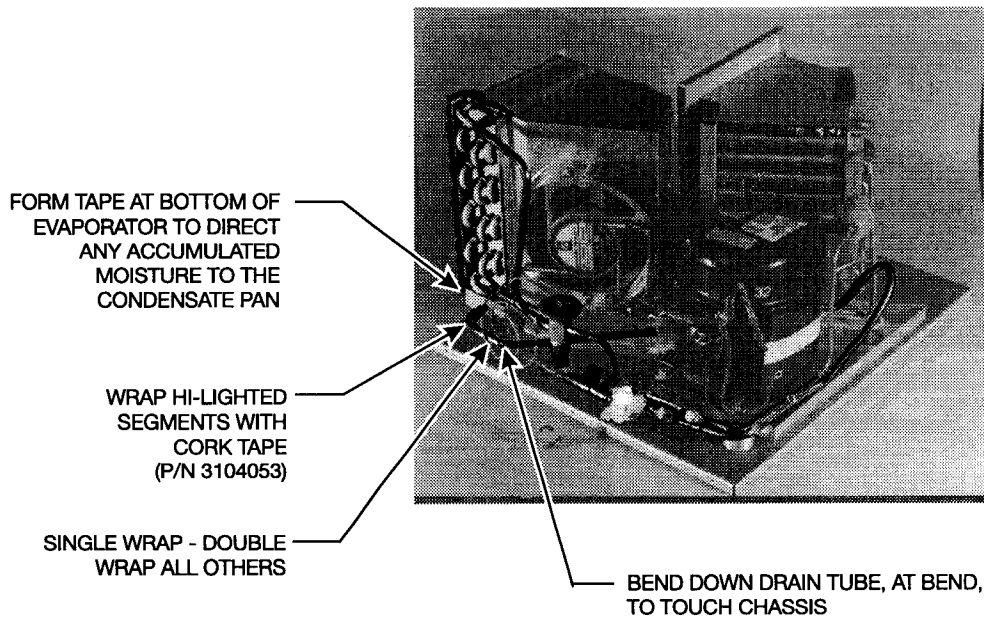

Figure 29
23. With cork tape (3104053), single wrap the condensate drain tube to the divider wall and the portion not over the new pan. The bend in the tube must be close to the chassis to form a trap. The outlet end must rest on the new evaporation pan. **See Figure 29.**
25. Double wrap, with cork tape (3104053), all refrigerant lines from the evaporator to the rear of the unit, around and through the heat exchanger, including the TXV. Compress the cork tape to minimize air pockets. **See Figure 29.**
26. With vertical strips of cork tape (3104053), cover all return bends, over the end sheet and around the shroud toward the fan, to the shallow bend in the shroud. Form cork tape to the end of the condensate pan to guide any moisture into the pan. Cover all cold metal surfaces. **See Figure 29.**